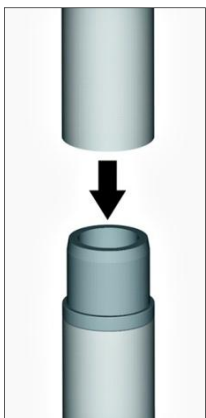

Fig. 1
1. Connect the tubes (A) with interconnector (B). (Fig. 1)